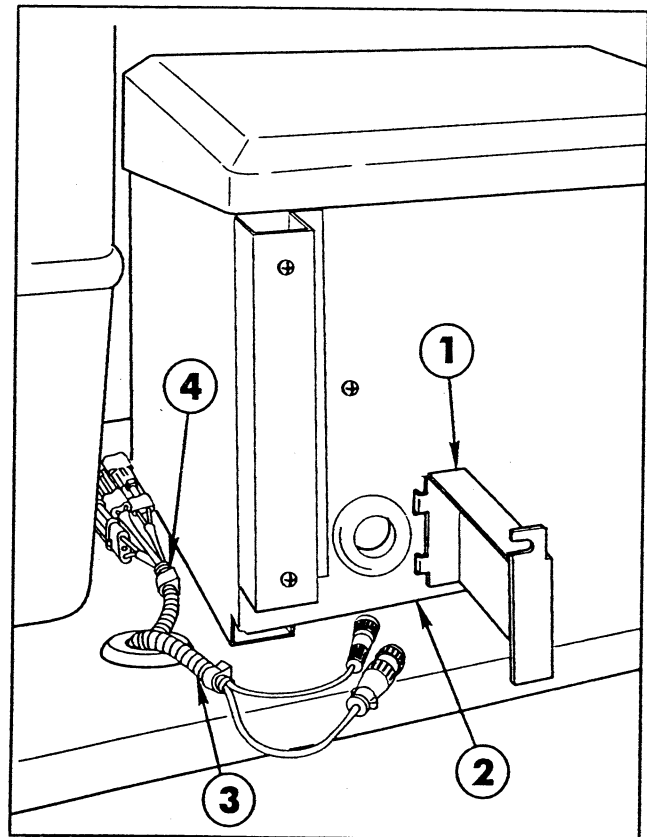

FIG. 16
7. Loosen the screw and remove the cover plate on the back of the Injection Pump Housing. See FIG. 16.